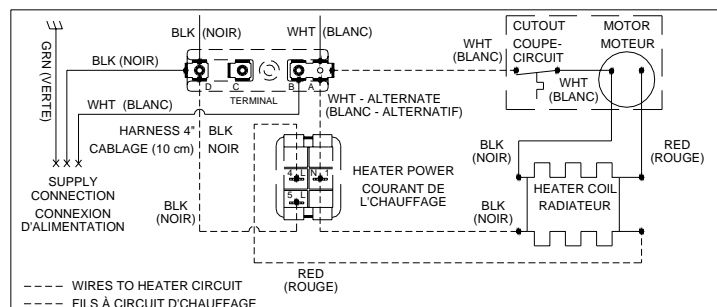

Figure 24 - Heater Circuit Connection Diagram
13. Connect **White** heater wire to neutral connection marked 'B' or 'A' on terminal block. See partial wiring diagram, **Figure 24**.